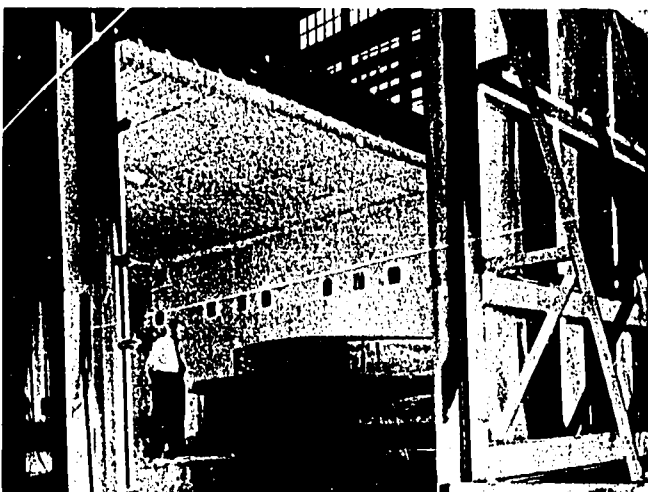

Fig. 52-12. This metal tank part is being placed in an annealing furnace between forming processes. This is an in-process conditioning treatment.
Sometimes conditioning is done later in the cycle to make forming easier. Often there are several conditioning steps. One example is the *drawing* of complex parts from sheet metal. It may take three draws to make a certain sheet metal part. Each draw leaves the metal very hard and not very ductile. To make it more ductile, the metal is *annealed* (softened) between each of the drawing steps. The full cycle would include these steps: (1) cut blank, (2) make first draw, (3) anneal, (4) make second draw, (5) anneal again, and (6) make third draw. The annealing between draws is an example of *in-process conditioning*. See Fig. 52-12.